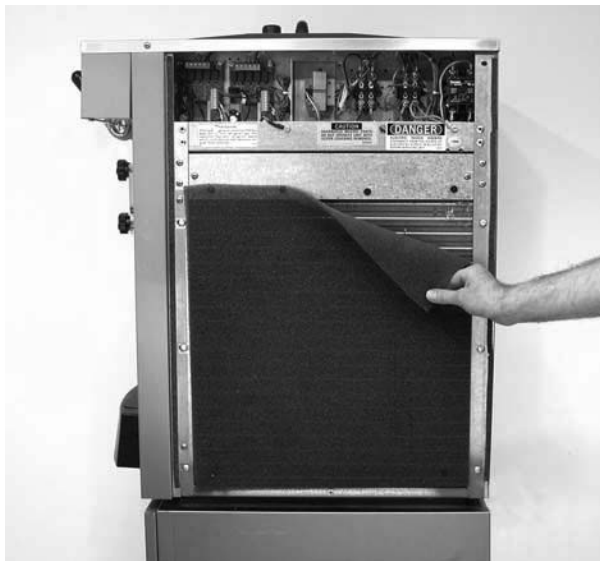

Figure 4-5 Condenser Filter Removal
2. To remove the condenser filter, grasp the top and pull off. Visually inspect for dirt. If the filter is dirty, shake or brush excess dirt off the filter and wash in warm, soapy water. Once the filter is clean rinse thoroughly in warm, clear water and shake dry, taking care not to damage the filter in any way (Figure 4-5).